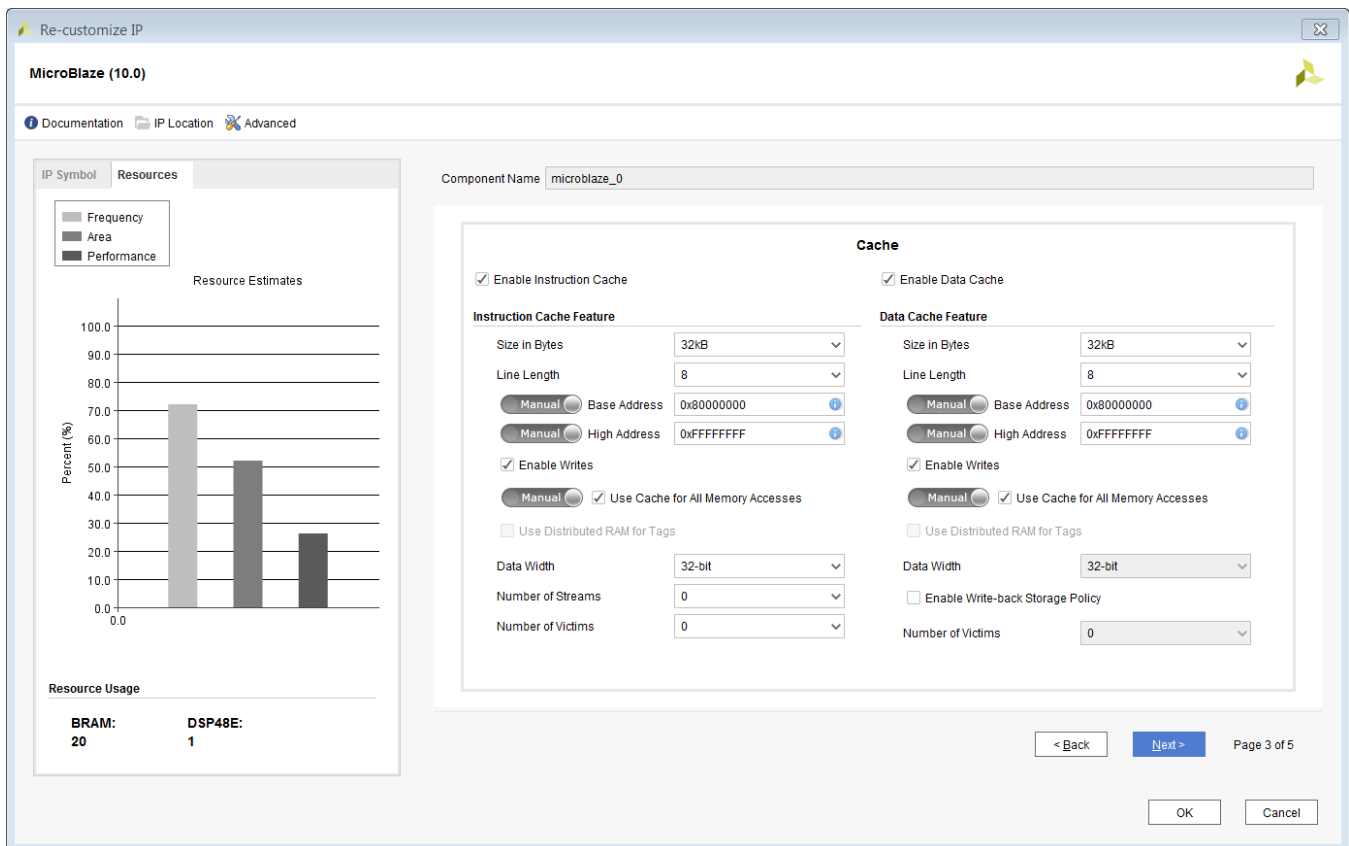

Figure 102: Setting Cache option for MicroBlaze
2. Double click on the MicroBlaze in the block design to re-configure it. Go to the Cache page (page 3) of the **Re-customize IP** dialog box, as shown in Figure 102. On this page, for both the **Instruction Cache** and **Data Cache**: